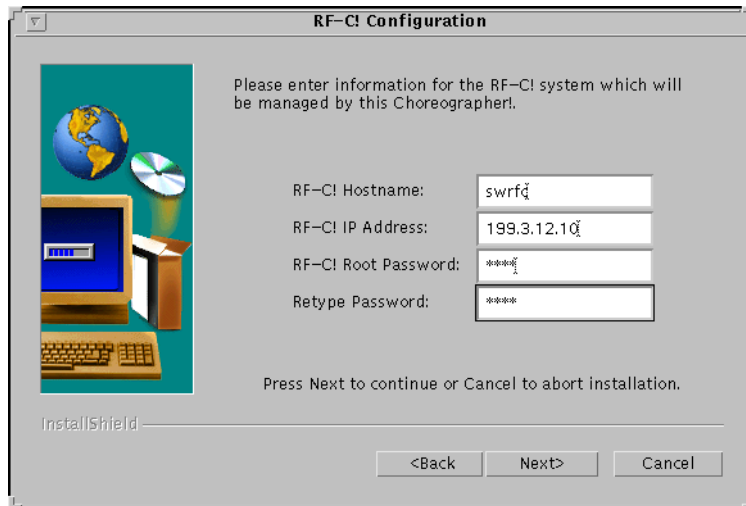

Figure 3-4: RF-C! Configuration Screen
14. The configuration for the RF-C! controller begins, and the RF-C! Configuration screen appears (see Figure 3-4). Type the Host name and the IP address for the controller from which you are collecting data. The system prompts for this information as follows: